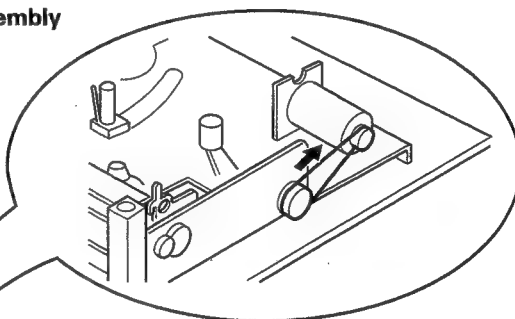
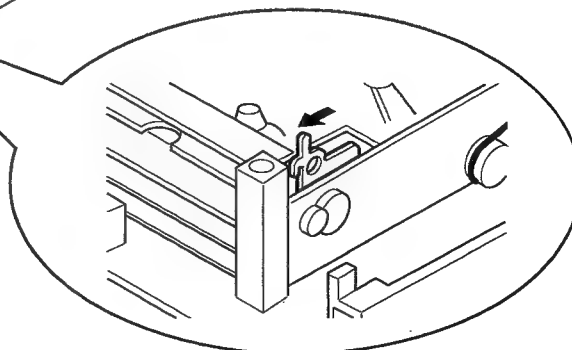

Fig. 2
Fig. 3
Turn the loading motor pulley in the direction as indicated by Fig.2. As both (A) and (B) levers are lodged twice, push the levers in the direction as indicated by Fig.3 to release them. When pushing the levers, do it in the order of (A), (B), (B), (A). When the holder has been lowered, turn the pulley until the cassette holder is securely in place without allowing any up/down movement.